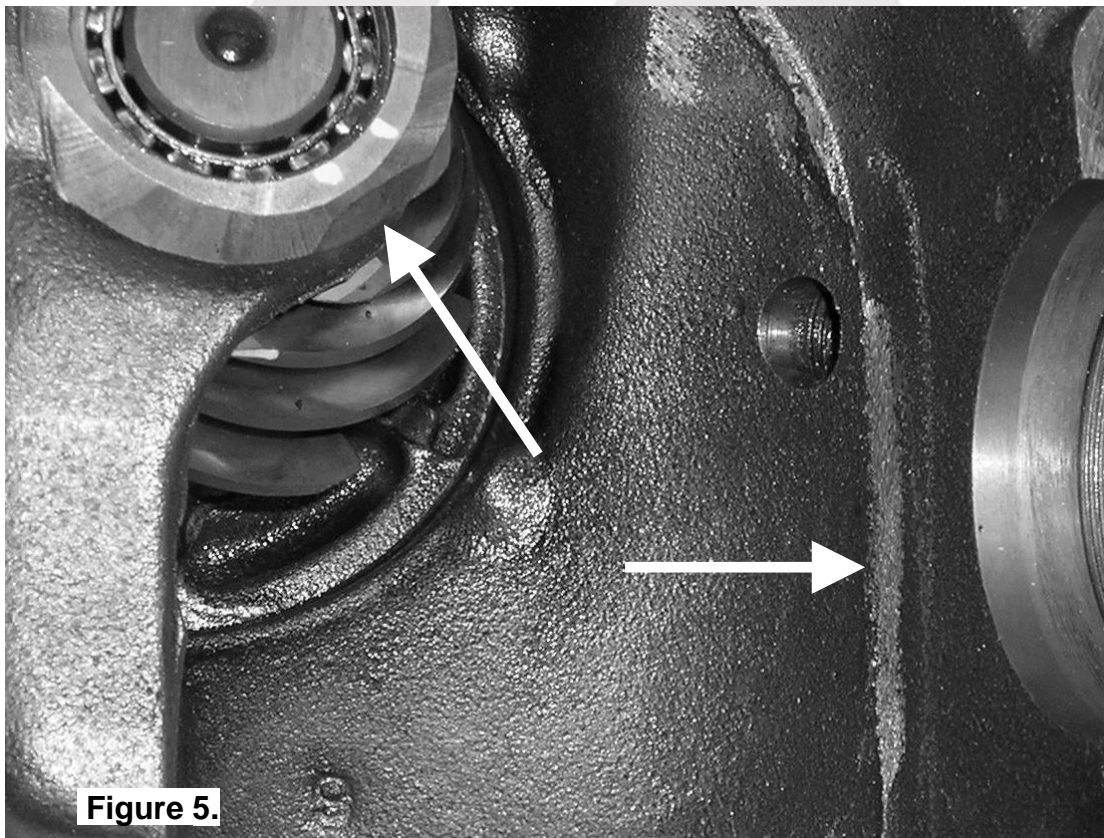

Figure 5.
- If necessary, remove the pinion shaft assembly and grind or file the third member casting to gain clearance. Figure 5. shows an example of relief grinding on the corner near the pinion support bearing and along the casting flash line.